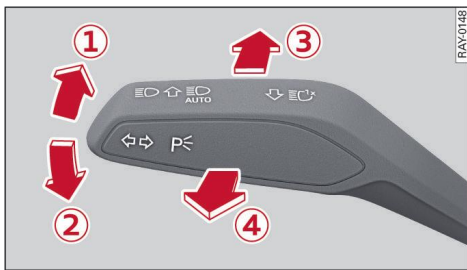

Fig. 37 Control lever: Switching light functions on/off
- Briefly press the lever forwards ③ → *page 52*, Fig. 37 to activate the main beam assist. The indicator lamp  will light up in the instrument cluster display and the main beams will ►
- ▶ To activate the main beams manually, briefly press the lever forwards  ⇒ *page 52, Fig. 37*. The indicator lamp  will light up.
- ▶ To deactivate the main beams manually, pull the lever towards you  ⇒ *page 52, Fig. 37*. The main beam assist will be deactivated.
- ▶ To flash the headlights, pull the lever towards you  ⇒ *page 52, Fig. 37*. The main beam assist function will remain activated if the headlights were dipped.